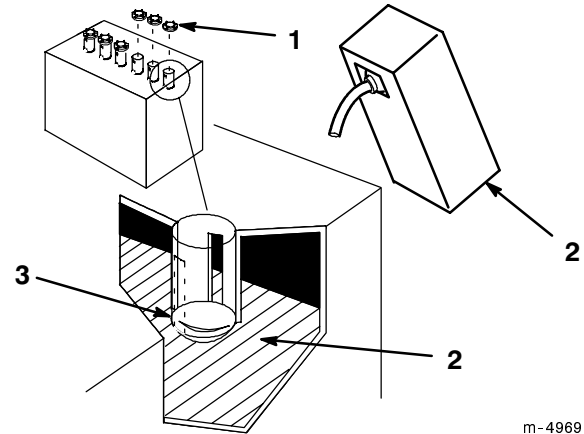

Figure 1
2. Remove the vent caps from the battery (Fig. 1).
3. Slowly pour electrolyte into each cell until the electrolyte level is up to the bottom of the vent wells (Fig. 1).